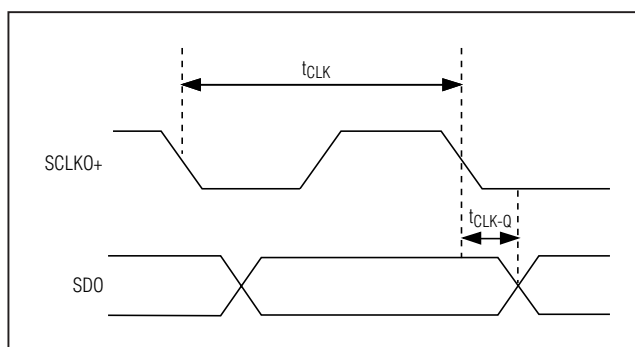

Figure 2. Definition of Clock-to-Q Delay
**Note 5:** Relative to the falling edge of SCLKO+. See Figure 2.